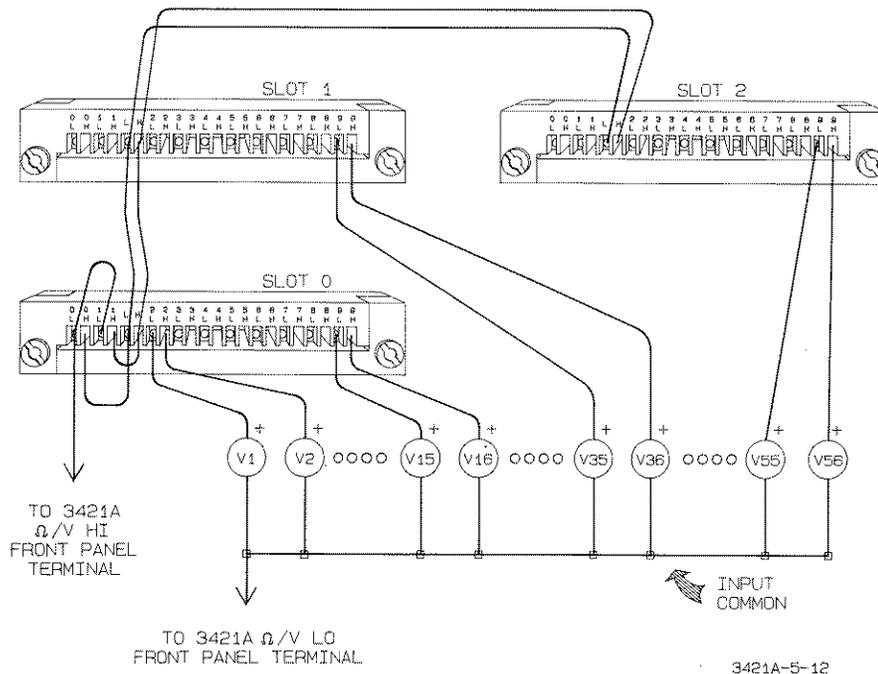

Figure 5-12. Configuration for Single Ended Measurements
- Step 7. Refer to Figure 5-12 and configure the terminal block edge connectors as follows: